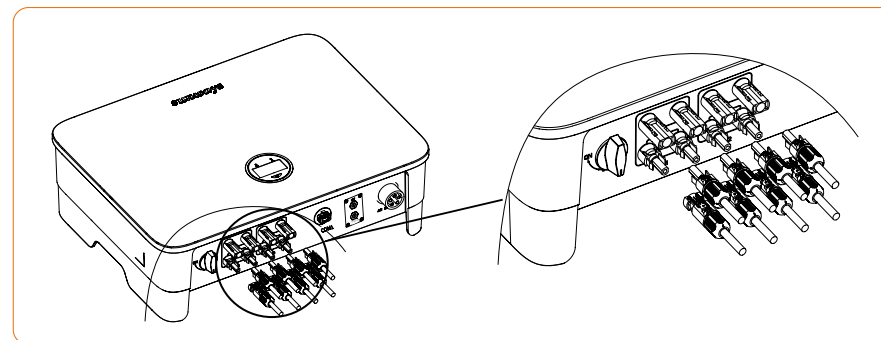

Figure 4-14
- ① Before assembling the DC connector, make sure that the cable polarity is correct.
- ② Use a multimeter to measure the voltage of the DC input string, verify the polarity of the DC input cable, and ensure that each string voltage is within 1000V.
3. Insert the positive and negative connectors into the inverter DC input terminals respectively, a click sound should be heard if the terminals are well connected, as shown in Figure 4-14: